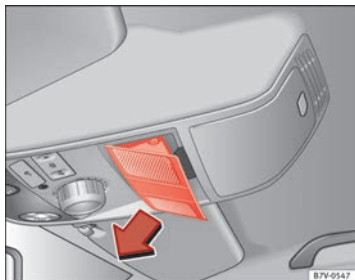

Fig. 195 On the interior roof lining: Remove cover.
- Push open the cover in the direction indicated (arrow) ⇒ fig. 195.